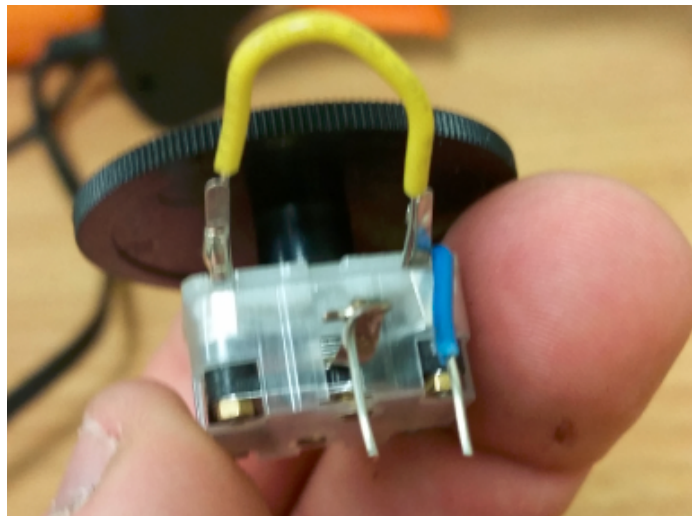

Figure 2: Tuning capacitor wiring connections
3. Solder jumper wire and protoboard connection leads to tuning capacitor as shown in Fig 2: